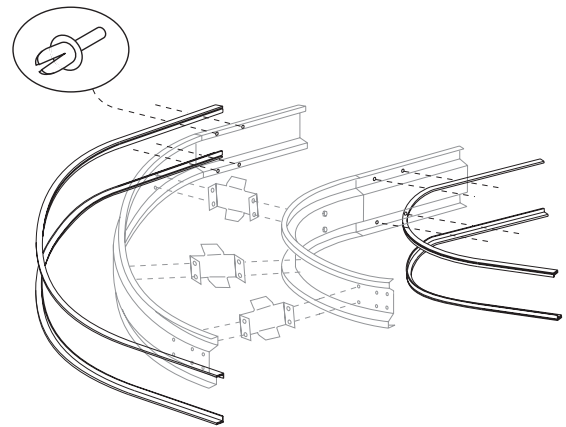

Figure 5
1. Using the Rivet Insertion Tool provided, install rivets in the straight bed section coming out of the bend (inside, outside, top, and bottom). Refer to *Figure 5*.